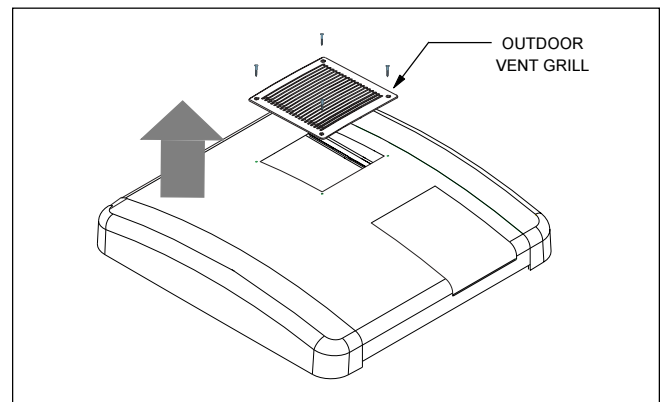

Figure 4. Removal of Outdoor Exhaust Grill.
1. Remove the vent exhaust grill by removing the four screws which retain it. The grill and the screws may be discarded (See Figure 4).